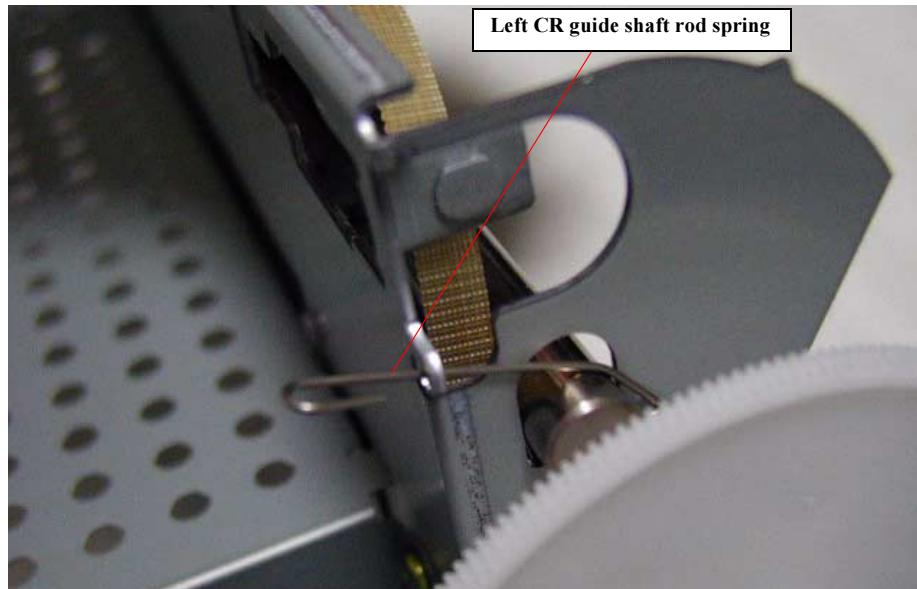
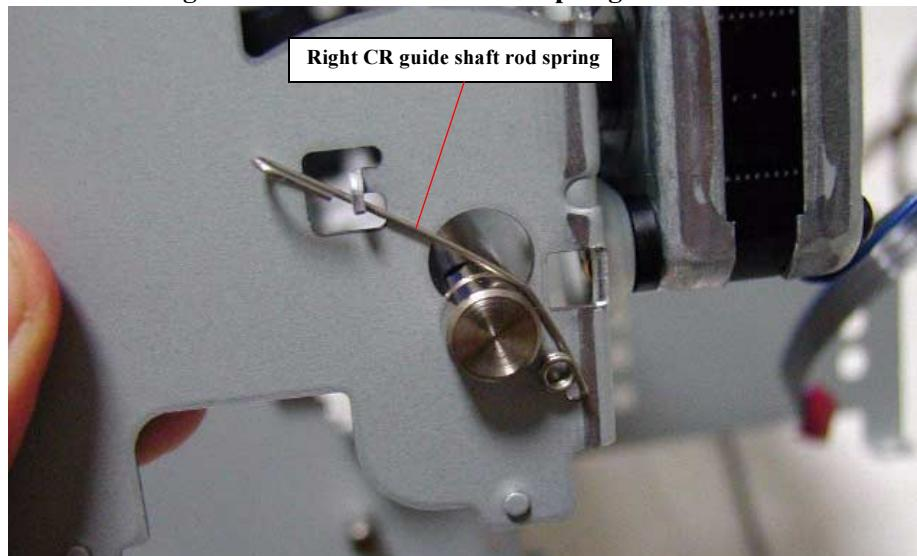

Figure 4-45. Release Left Rod spring for CR shaft
Figure 4-46. Release Right Rod spring for CR shaft
- Make sure that the CR guide shaft rod springs are correctly set in the suitable position. Refer to Figure 4-45,Figure 4-46.